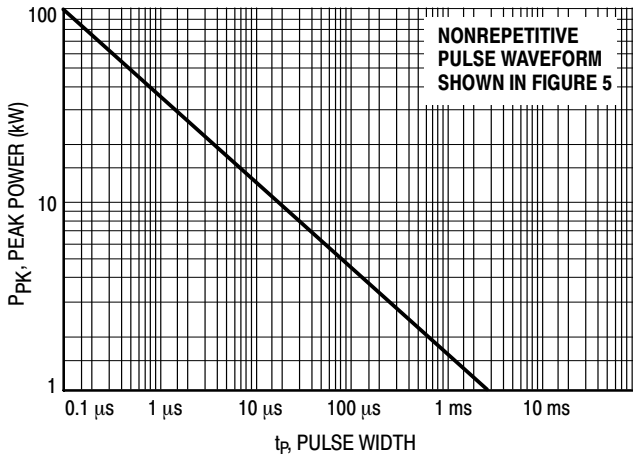
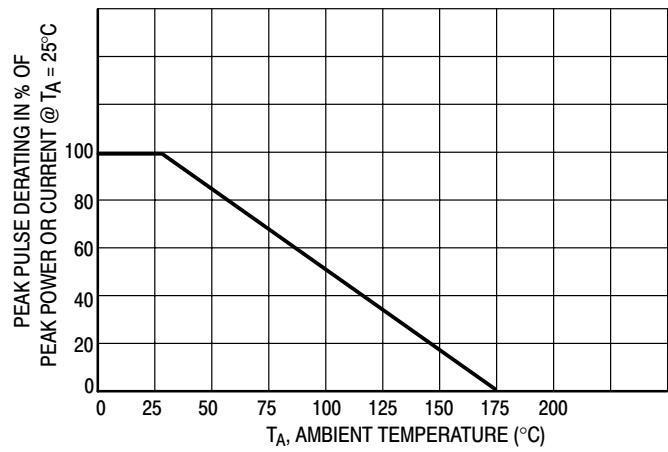
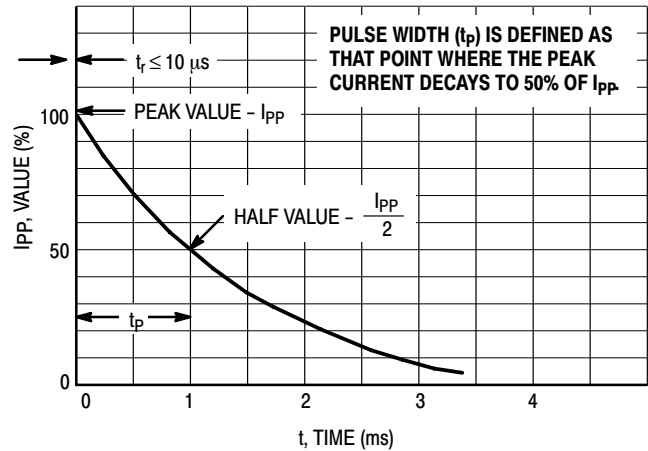
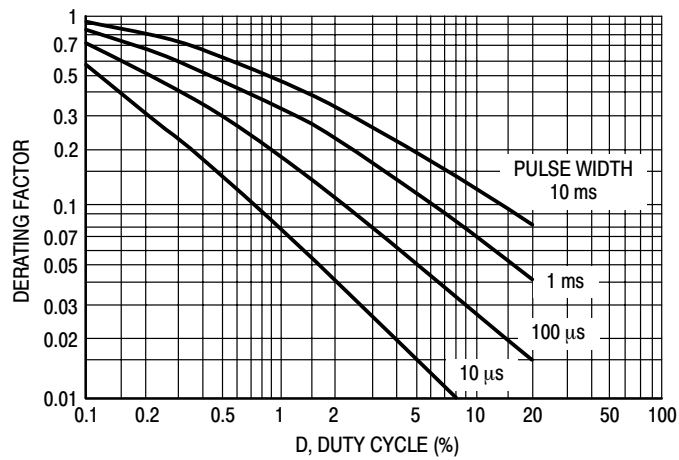

Figure 1. Pulse Rating Curve
Figure 2. Pulse Derating Curve
Figure 5. Pulse Waveform
Figure 7. Typical Derating Factor for Duty Cycle
1. Nonrepetitive current pulse per Figure 5 and derated above  $T_A = 25^\circ\text{C}$  per Figure 2.
6. Surge current waveform per Figure 5 and derate per Figures 1 and 2.
The data of Figure 1 applies for non-repetitive conditions and at a lead temperature of 25°C. If the duty cycle increases, the peak power must be reduced as indicated by the curves of Figure 7. Average power must be derated as the lead or ambient temperature rises above 25°C. The average power derating curve normally given on data sheets may be normalized and used for this purpose.
At first glance the derating curves of Figure 7 appear to be in error as the 10 ms pulse has a higher derating factor than the 10  $\mu$ s pulse. However, when the derating factor for a given pulse of Figure 7 is multiplied by the peak power value of Figure 1 for the same pulse, the results follow the expected trend.